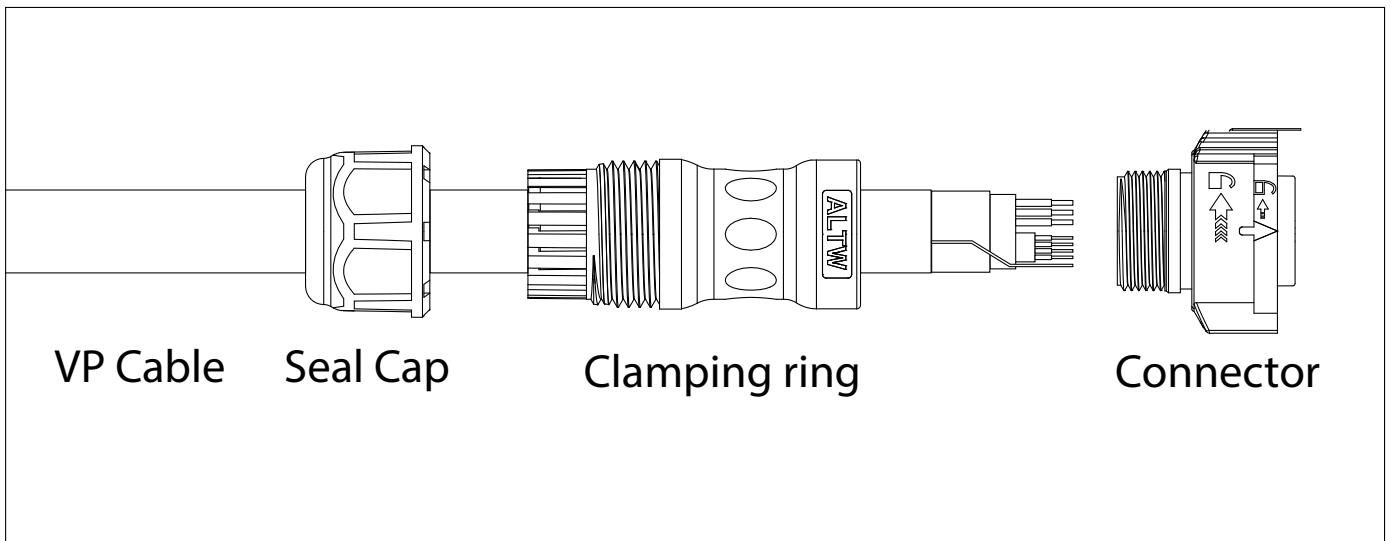

Figure 19: X-lok parts
2. Disassemble the X-lok connector and lead the cable through the seal cap (see figure 19).